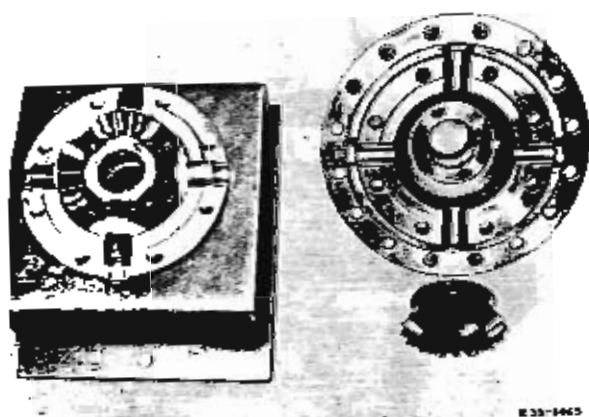

Fig. 3
- 5 Mark differential housing and differential housing cover. Unscrew hex. screws and remove cover with side gear (Fig. 3).